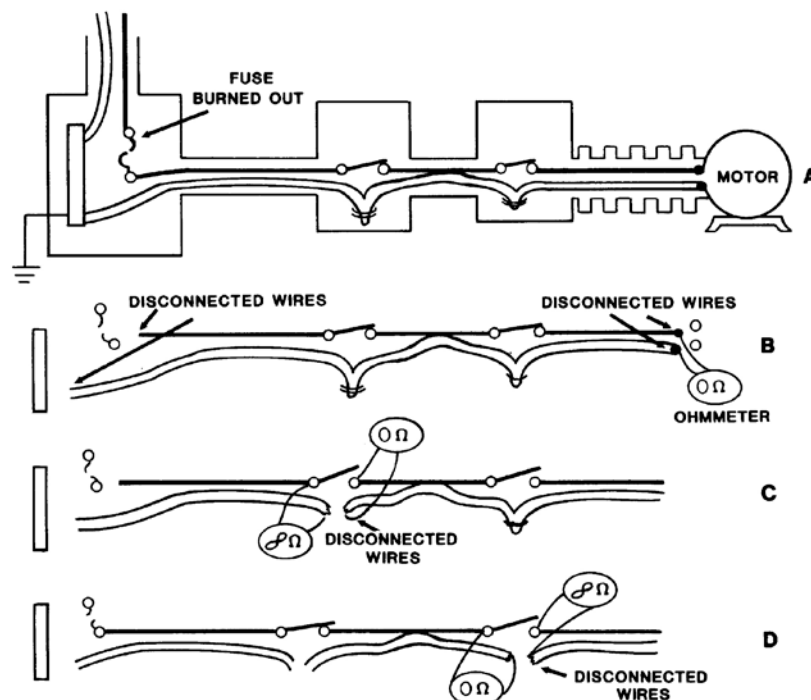

Figure 1-47. Troubleshooting direct shorts.
If you do not find the trouble with a visual inspection, you must isolate it step by step. First, reset the breakers or replace the fuse. Switch the circuit “ON” and see if you can get a usable reading. Compare the reading against the load device data plate for accuracy. If the fuse does not blow or the breaker does not trip immediately, then you may not find the trouble in the load device or breaker; it just might have been a weak circuit protection device. STQ20 But, if a short does trip the breaker or the fuse burns out again, then the trouble most likely is in the wiring or controls or possibly the load device (fig. 1-47, A).
To find the direct short, you first disconnect the wires at both ends of the circuit and test either end with an ohmmeter. A normal reading between circuits would be infinity. The infinity symbol looks like this,  $\infty$ . If a short exists in the circuit, you get a zero (0) reading (fig. 1-47, B). Remember you do NOT want continuity (0) between these two lines. Often time’s technicians get confused on what the meter is supposed to be reading. Know what the meter should read before you place the leads on the device.
Now go back and place all controls in an open position. Then go to the first control and check between the circuits in both directions (fig. 1-47, C). One direction shows clear of trouble by reading infinity. The other shows the circuit still shorted (zero ohms). Move down the shorted circuit to the next control or junction box and repeat the process until you isolate the short to a single wiring section (fig. 1-47, D). Once the circuit is isolated, you can then replace the wire.